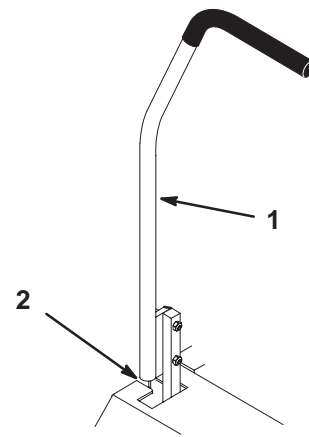

Figure 47
3. Check where lever is relative to notch in console (should be centered allowing lever to pivot outward to the neutral lock position) (Fig. 47).